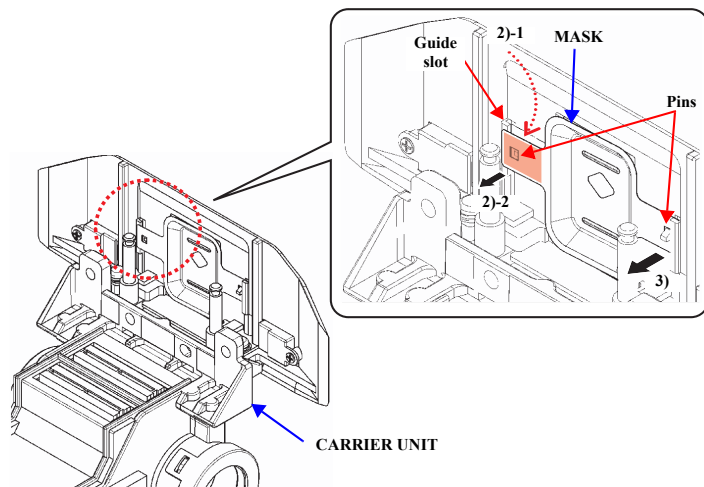

Figure 4-29. MASK removal
2. Slowly bow toward you the left end of the Ribbon MASK as shown in Figure 4-29. Release the Mask from the guide slot and pin that secure the MASK to the left side of the CARD GUIDE ASY.